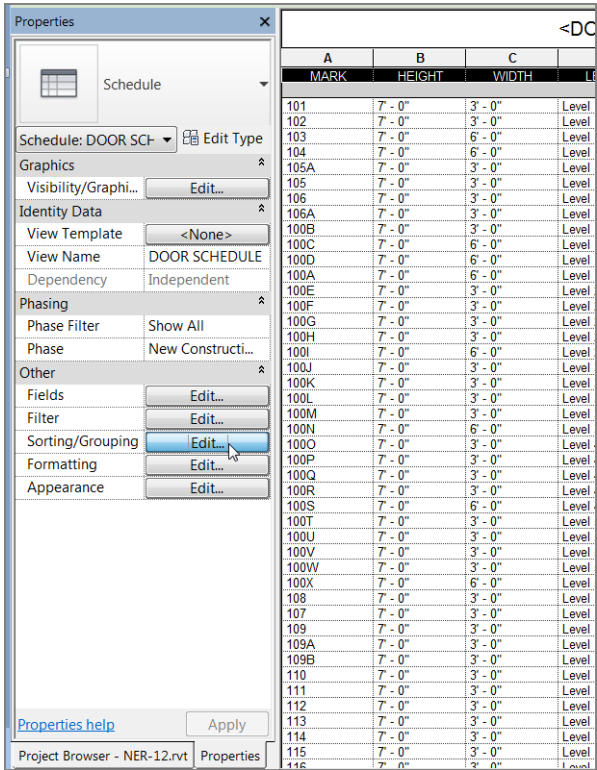

FIGURE 11.6: Click the Edit button in the Sorting/Grouping row.
- 5. In the Properties dialog is an Other category. Here you can return to the Schedule Properties dialog. Click the Edit button in the Sorting/Grouping row, as shown in Figure 11.6.